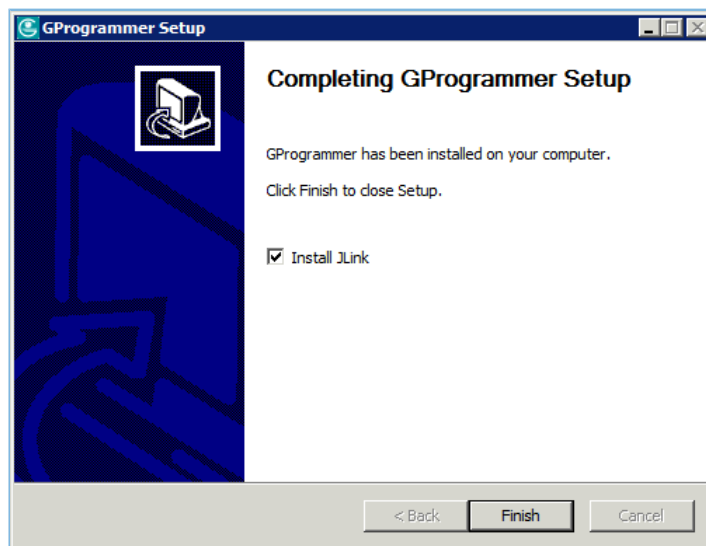

Figure 2-2 Prompt to install J-Link
2. After installing GProgrammer, you are prompted to install J-Link on demand. See Figure 2-2.